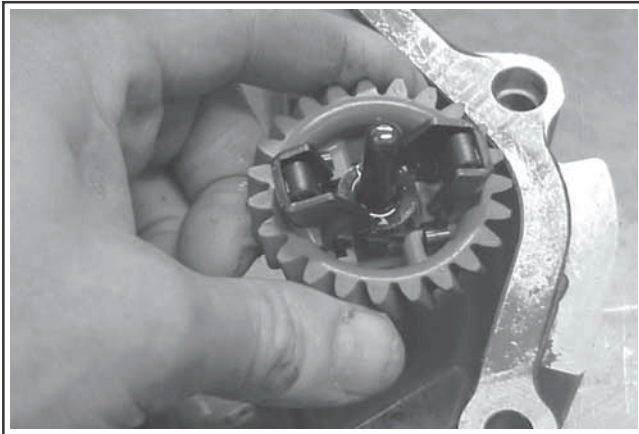

Figure 10-12. Removing Governor Gear.
1. Remove the regulating pin and governor gear assembly. See Figure 10-12.